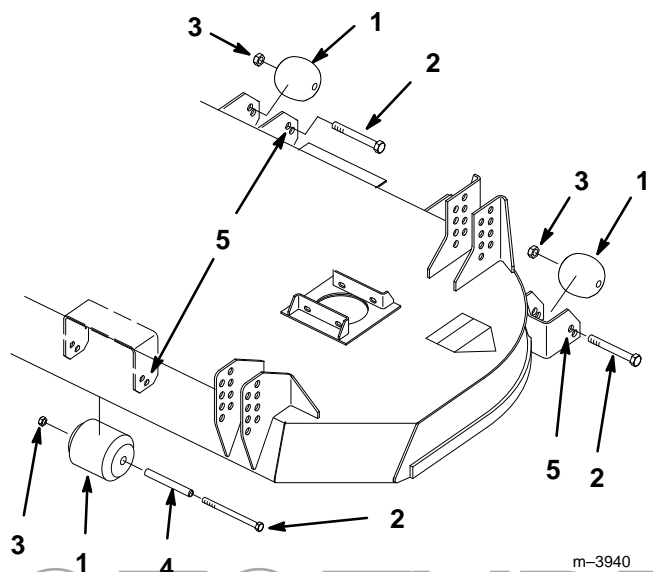

Figure 2
2. Remove the locknut and bolt to change hole location (Fig. 2).
3. Select the proper hole position for the height-of-cut to be used (Fig. 2).
4. Insert 1/2-13 x 4" (101 mm) bolt through roller and secure with 1/2-13 locknut (Fig. 2).